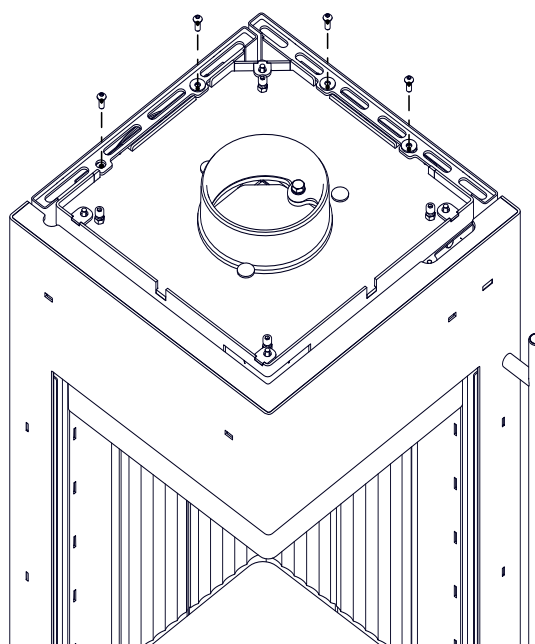

Fig.1
- Unscrew 4x fastening screws for the back panel and the side panel on the top (see Fig.1).